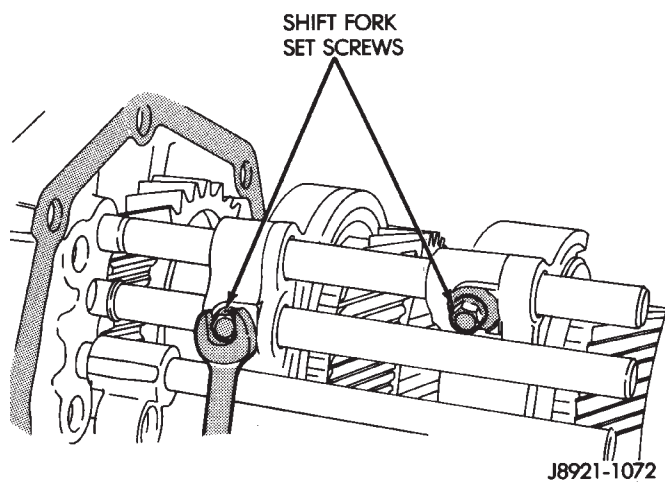

Fig. 43 Removing Shift Fork Set Screws
- (3) Remove shift fork set screws (Fig. 43).